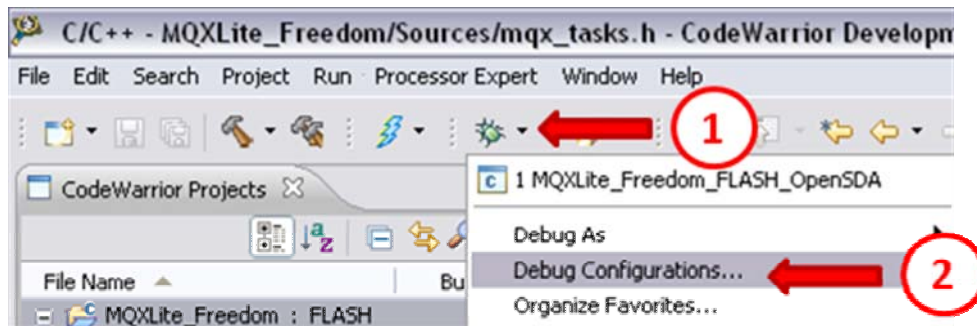

Figure 43. Entering into Debug Configurations.
1. Go to the debug button (bug icon) in the tools bar and expand the debugging menu just like Figure 43 demonstrates it. Then click in “Debug Configurations...” option to enter into the available debug settings for the project.